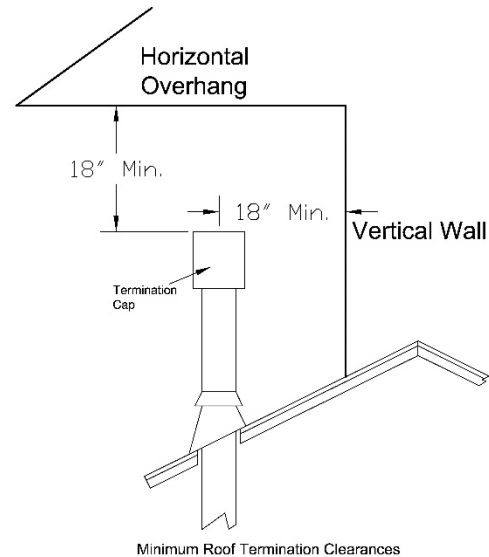

Figure 10 - Termination Cap clearances
- 🔥 All termination caps must be no less than 18" (457mm) horizontally from any roof or vertical surface. See Figure 10 - Termination Cap clearances.